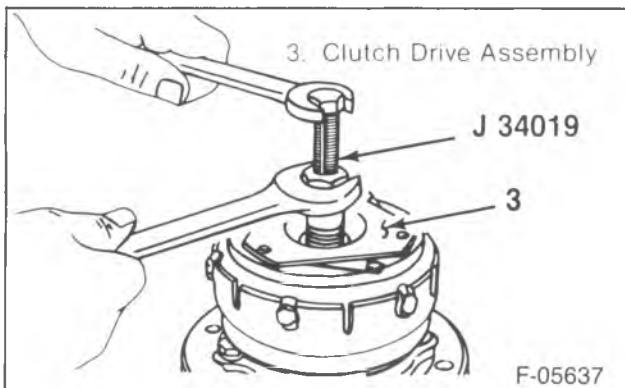

Figure 4—Clutch Plate and Hub Removal
- Hold the clutch plate and hub assembly (3) with J 25030.
- 2. Clutch drive hub (3) (figure 4).
- Thread J 34019 into the clutch plate and hub assembly (2).